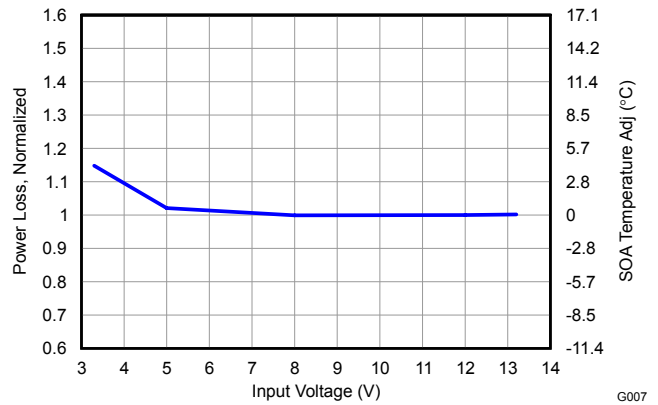

Figure 13. Normalized Power Loss vs Input Voltage
- Normalized Power Loss for input voltage \approx 1.07 (Figure 13)
- SOA adjustment for input voltage \approx 0.1°C (Figure 13)